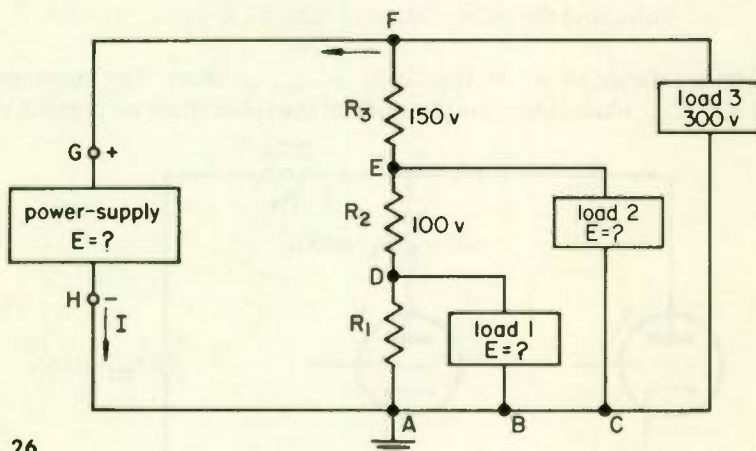

Fig. 26
17. In the voltage-divider circuit of Fig. 26 the power supply voltage E is (a) _____ volts, the voltage across load 1 is (b) _____ volts, and the voltage across load 2 is (c) _____ volts.